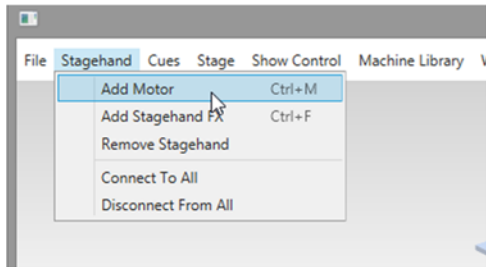

Figure 168
- From the Stagehand menu select Add Motor and adjust all of the configuration parameters in the Stagehand Editor Pane that you want to be included in the Machine Library template (Figure 168).